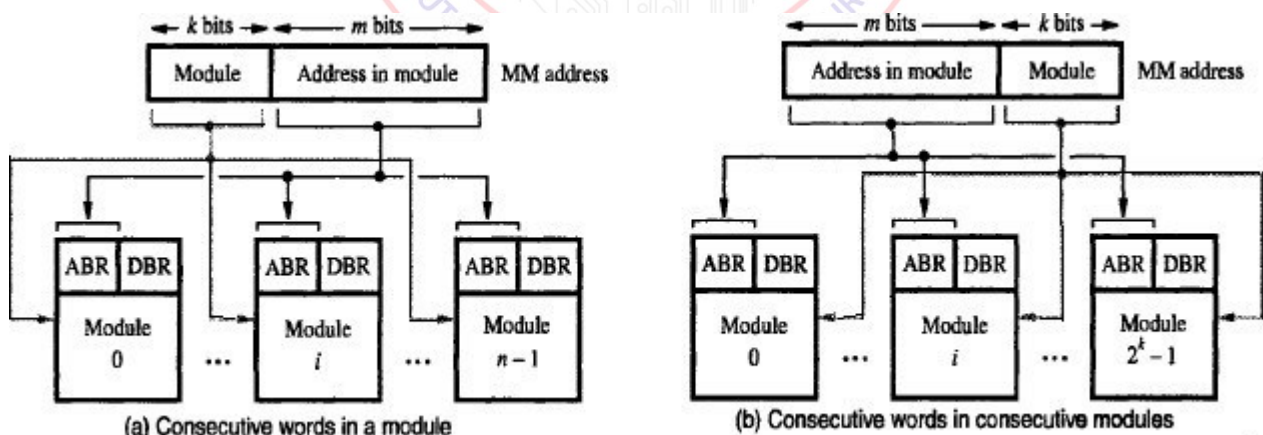

Figure 5.25 Addressing multiple-module memory systems.
- So, memory access operations may proceed in more than one module at the same time (Fig 5.25).